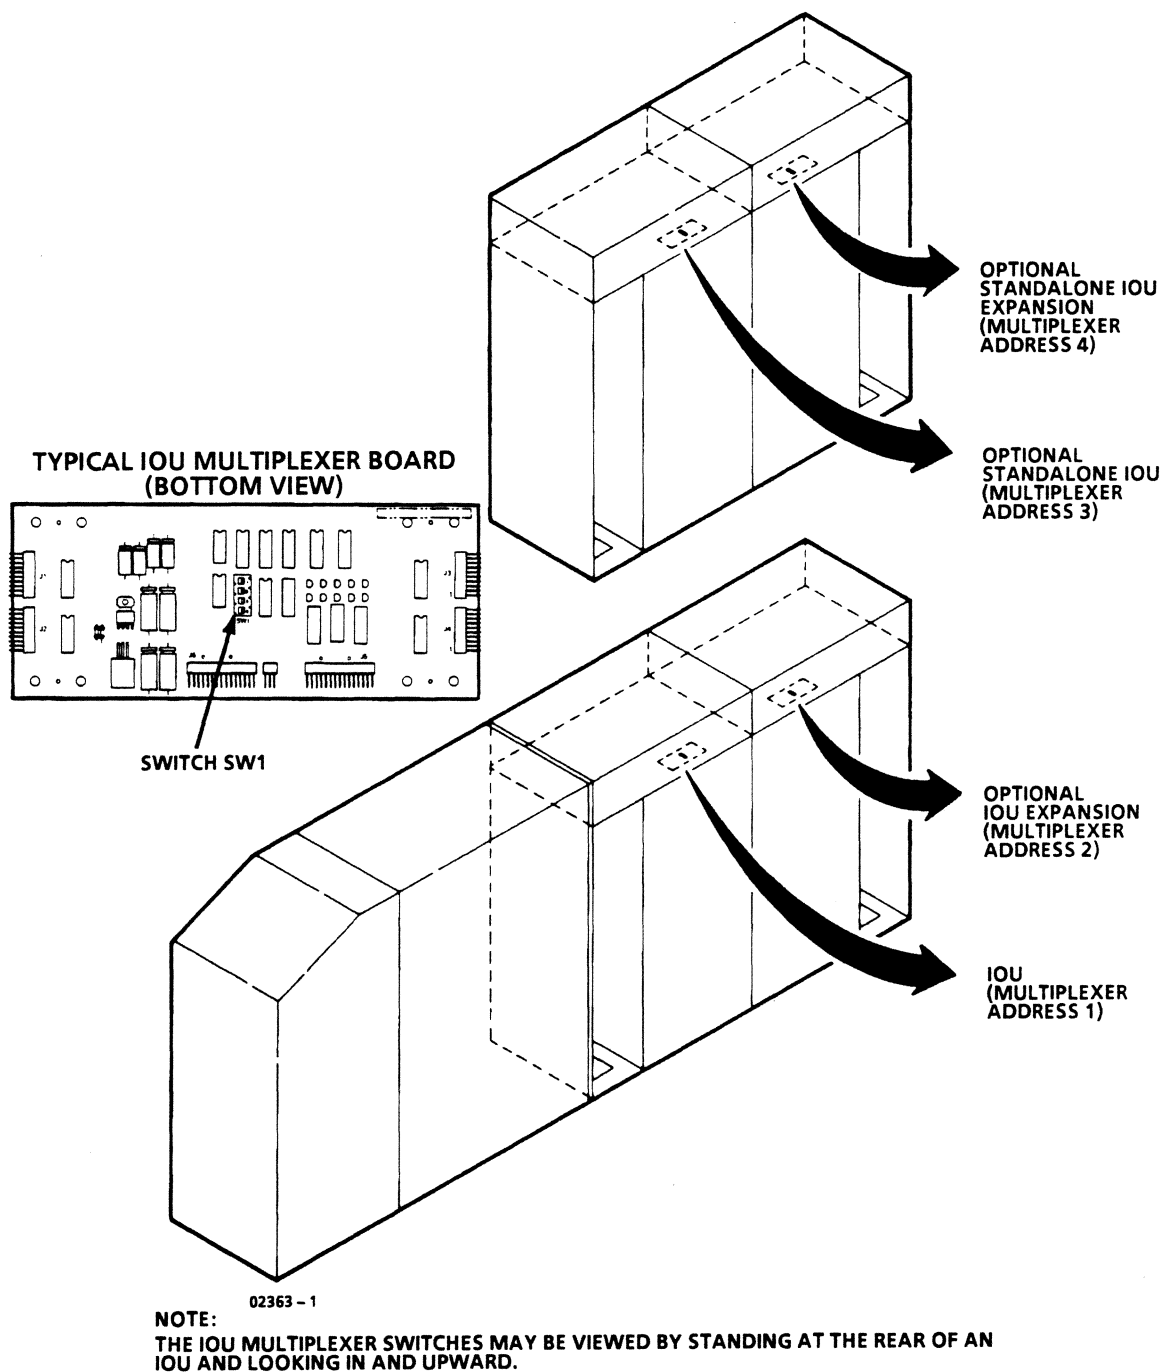

Figure 2-47. IOU Multiplexer Board Switches
- ___ 1. Access multiplexer board from rear of IOU or optional IOUs (figure 2-47).